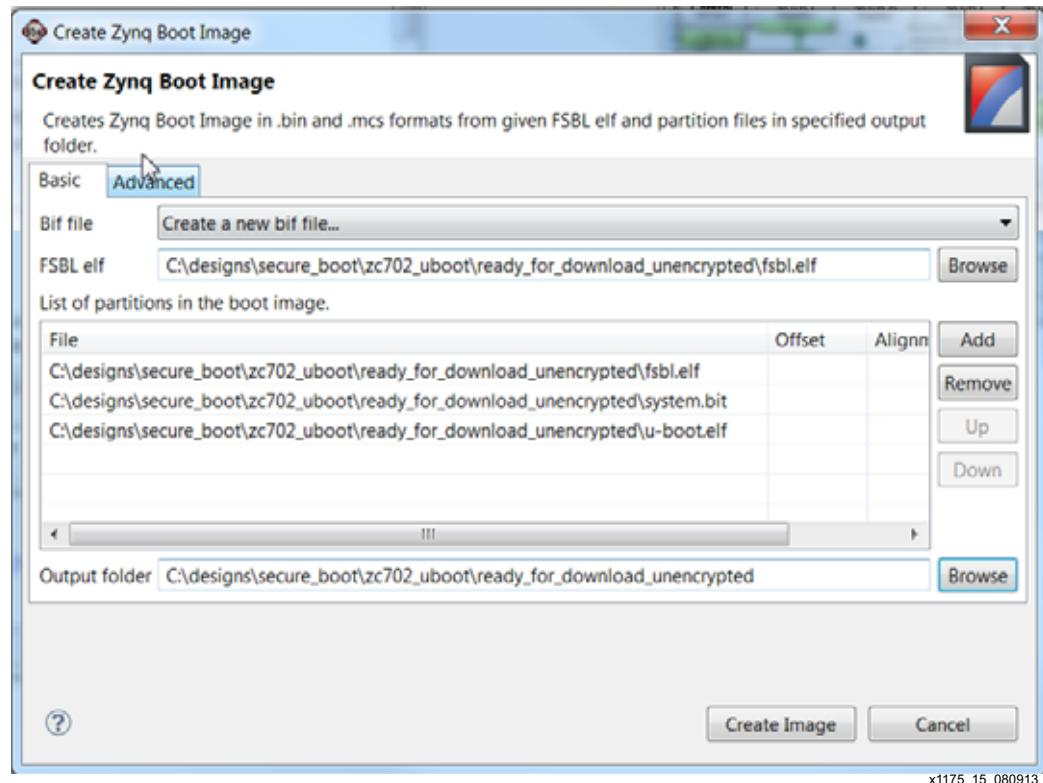

Figure 17: Creating a Non-secure BIF Using the Bootgen GUI
9. Use the Basic tab in the **Create Zynq Boot Image** dialog box to specify the directory and name of the BIF file. Use the Browse button to select the `fsbl.elf` file from the `fsbl/Debug` directory, where `fsbl` was specified as the project name. Add `system.bit` to the list of partitions. If used, the bitstream partition must follow the FSBL partition. Add `u-boot.elf` to the list of partitions. As shown in Figure 17, click **Create Image** to generate the BIF and non-secure BIN and MCS files. The file is the input file into Bootgen that lists the partitions to include in the image. The MCS formatted image is used in QSPI boot mode. The BIN formatted image is used in SD boot mode. Create a directory `ready_for_download_unencrypted` in the project. Use the **Browse** button to select the `ready_for_download` directory as the Output folder.